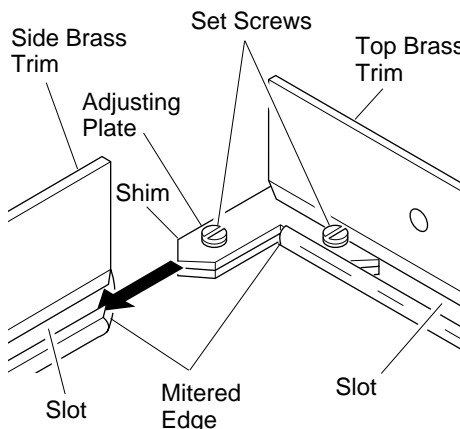

Figure 10 - Assembling Brass Trim
- Align shim under adjusting plate as shown in Figure 10.
- Slide one end of adjusting plate/shim in slot of top brass trim (see Figure 10).
- Slide other end of adjusting plate/shim in slot on mitered edge of side brass trim (see Figure 10).